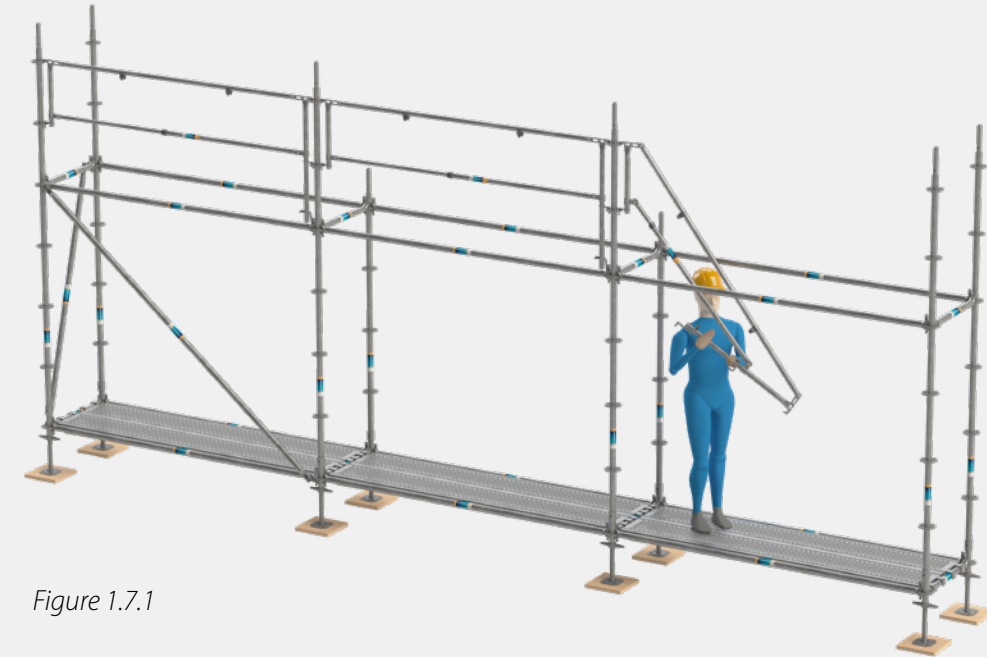

Figure 1.7.1
1.2.9 Start unfolding the RINGSCAFF PAG by holding the long standard. Then position first the lower hook of this standard and then the upper hook in the rosettes of the opposite standard of the bay of the scaffold (see figure 1.7.1 to 1.7.3).